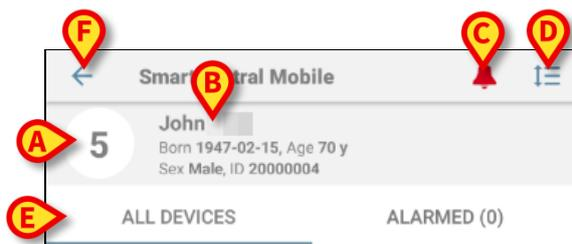
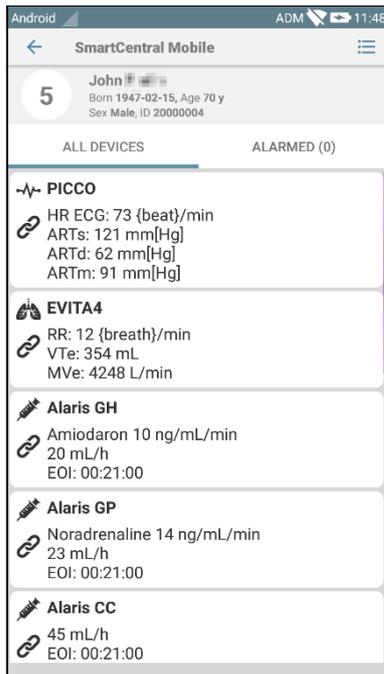

Fig 172
Fig 173
In the heading area (Fig 172) the following information and tools are available:
- Bed number (Fig 172 **A**).
- Patient data (Fig 172 **B**).
- The red bell icon (Fig 172 **C**) indicates that there is at least one medical device alarmed on one of the other beds (those not currently displayed).
- Use the icon indicated in Fig 172 **D** to enlarge the device-areas and display more information for each connected medical device (Fig 173). The type of information displayed depends on the configuration and the specific device.
- Touch the icon (Fig 172 **D**) again to go back to compact display mode.
- Use the filters indicated in Fig 172 **E** to display either all the connected medical devices or only the ones providing notifications.
- Use the back-arrow button (Fig 172 **F**) to go back to the “Central” screen.